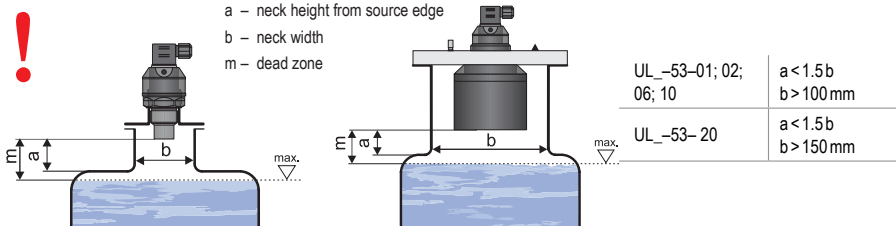

Fig. 5: Installation of the device in the installation neck
- Only if the maximum level in the tank gets into the dead zone, the device shall be mounted to a higher **installation neck**. The tank can be then filled nearly up to the maximum volume. The neck's inner surface shall be even and smooth (without edges and welded joints), the inner edge should be rounded in the spot where the ultrasonic wave leaves the pipe. Choose the largest possible neck diameter, but keep the neck height as low as possible. The recommended dimensions of the inlet neck are listed in Fig. 5.